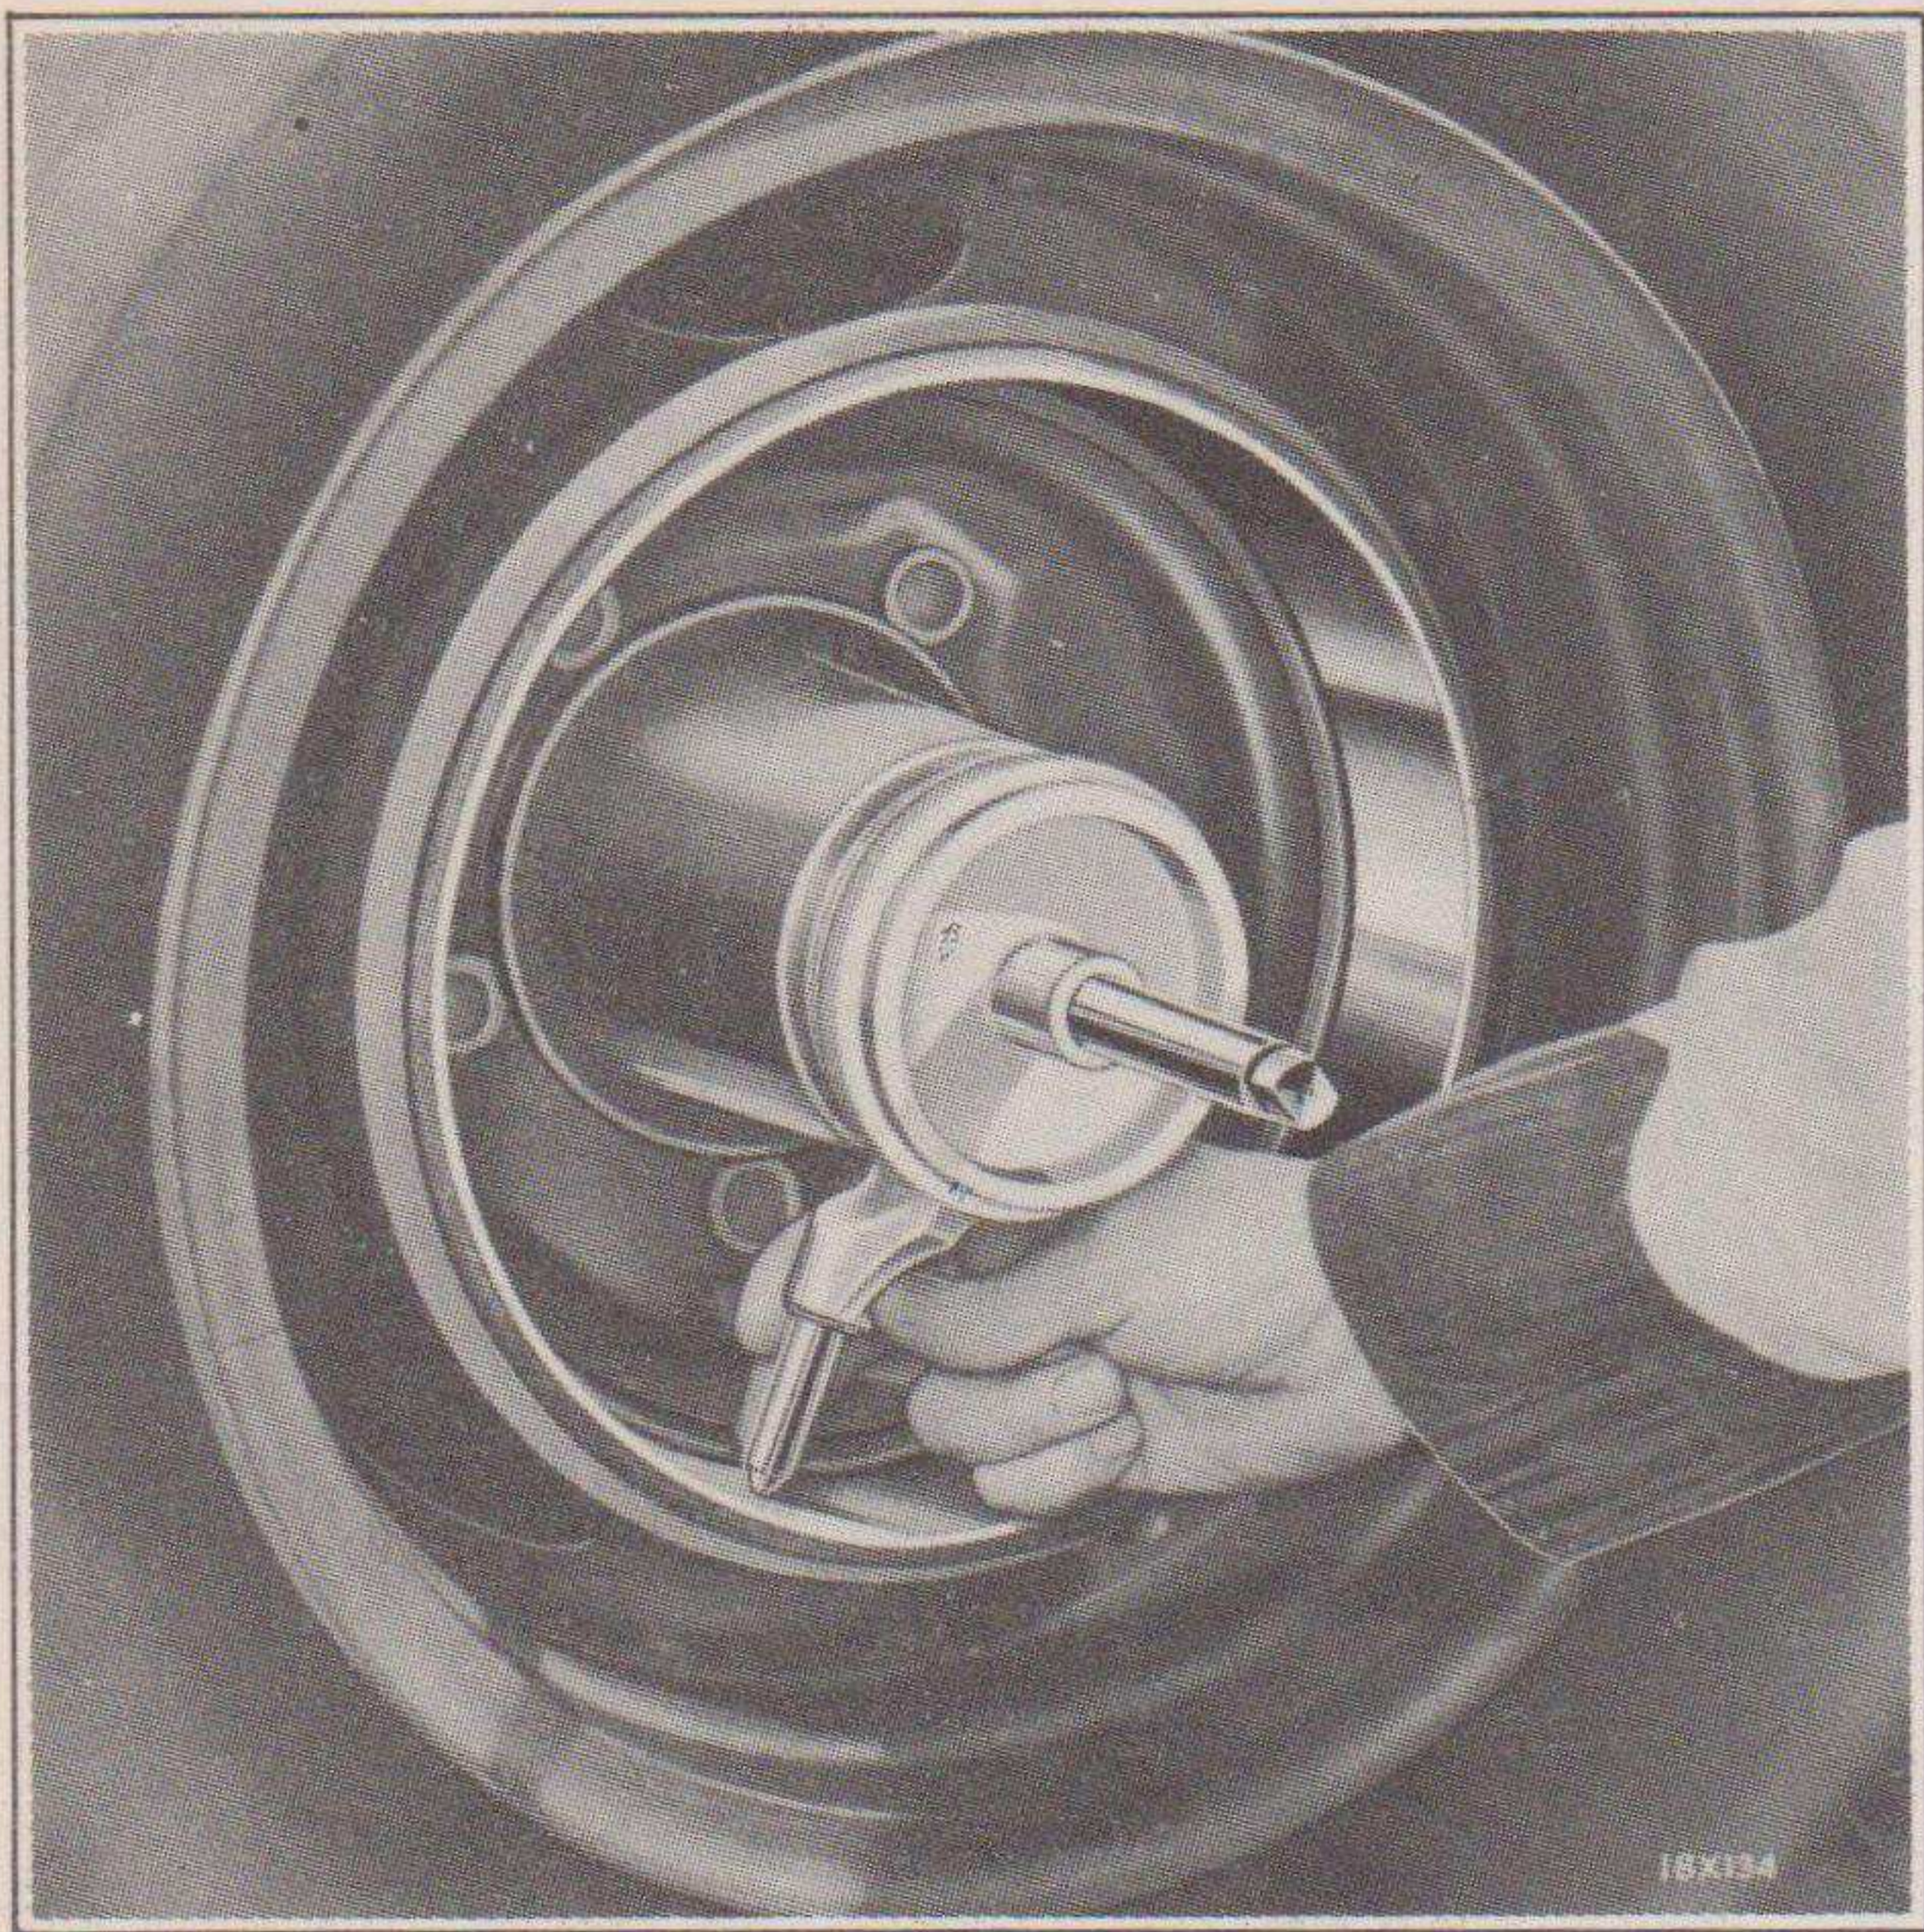
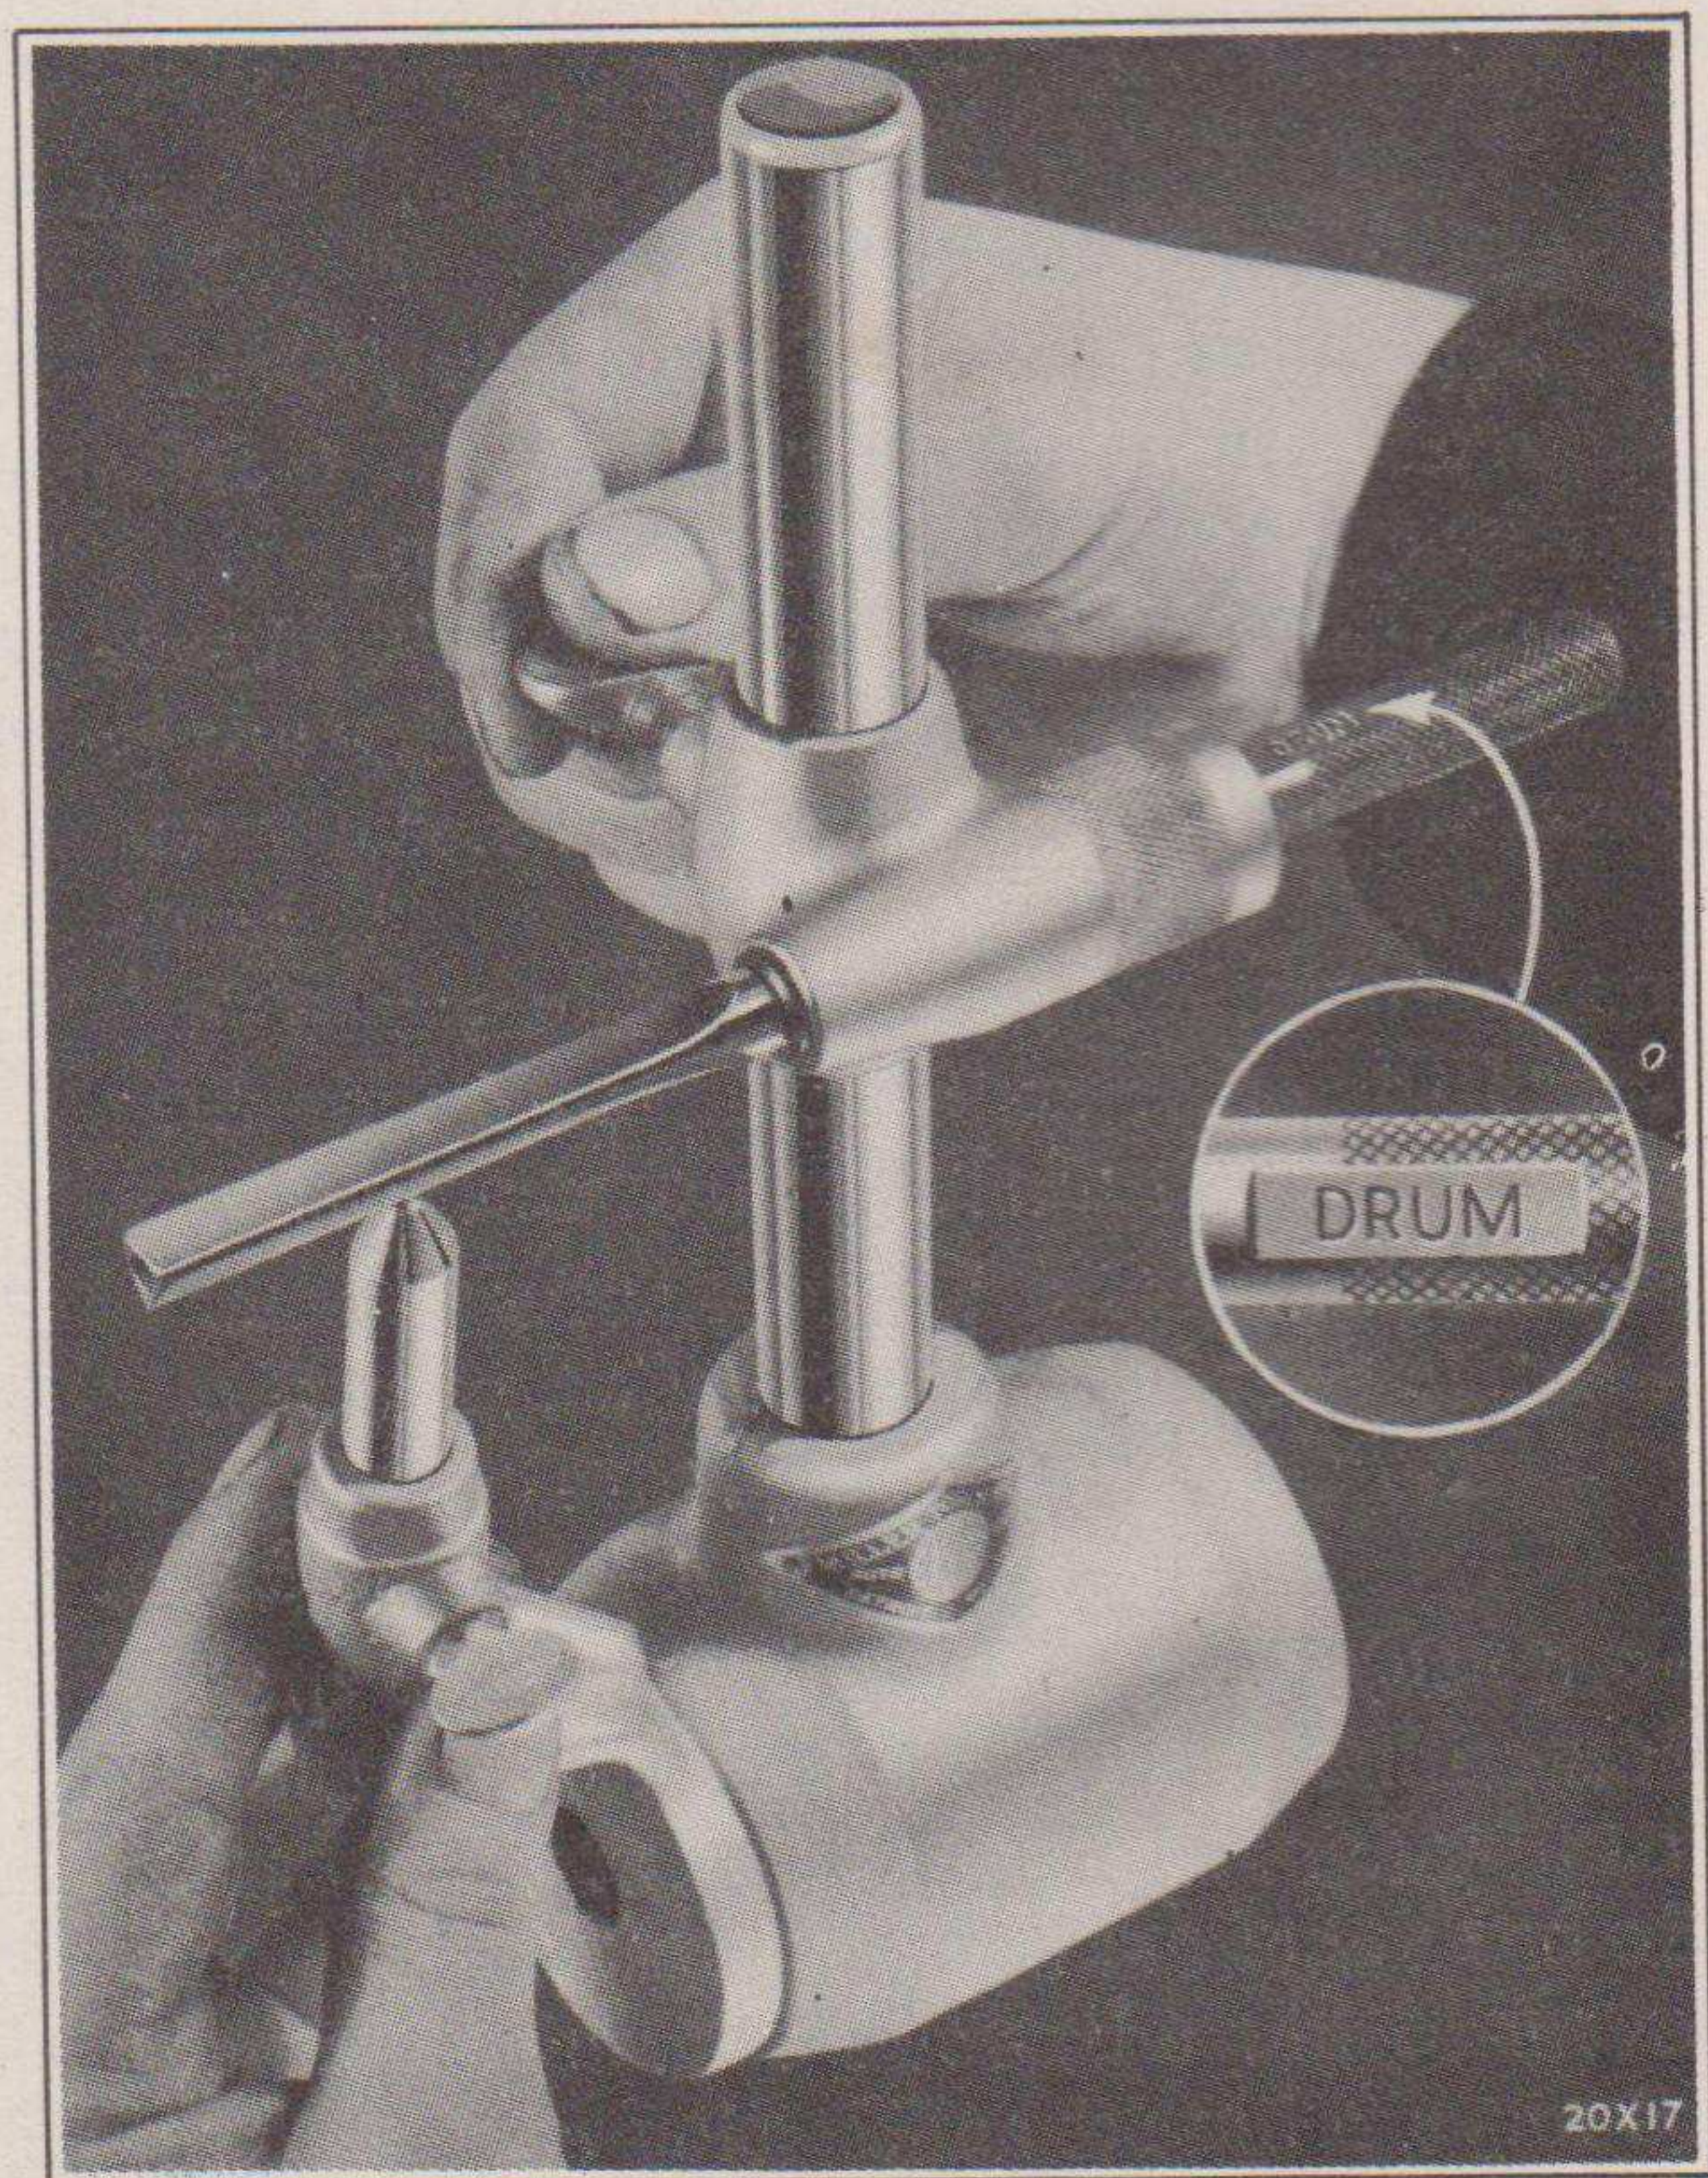

Fig. 72—Checking Brake Drum
Fig. 73—Setting Brake Gauge
- (f) Check the inside diameter of the brake drums with the brake drum gauge as shown in Fig. 72. Then set the brake shoe gauge arbor so that the finger marked “Drum Diameter” is just in contact with the point of the brake drum gauge pin. See Fig. 73. Place the proper adapter bushing